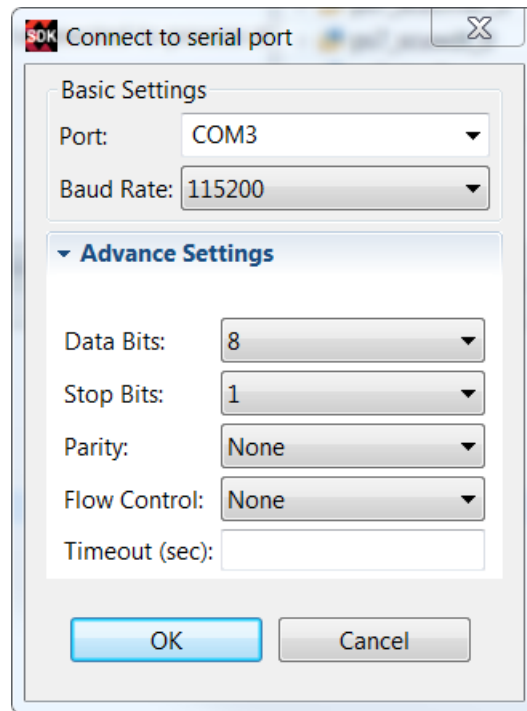

Figure 31: Terminal Settings for ZC702 Board
10. Use the settings in Figure 31 for the ZC702 board. The COM Port might be different on your machine.